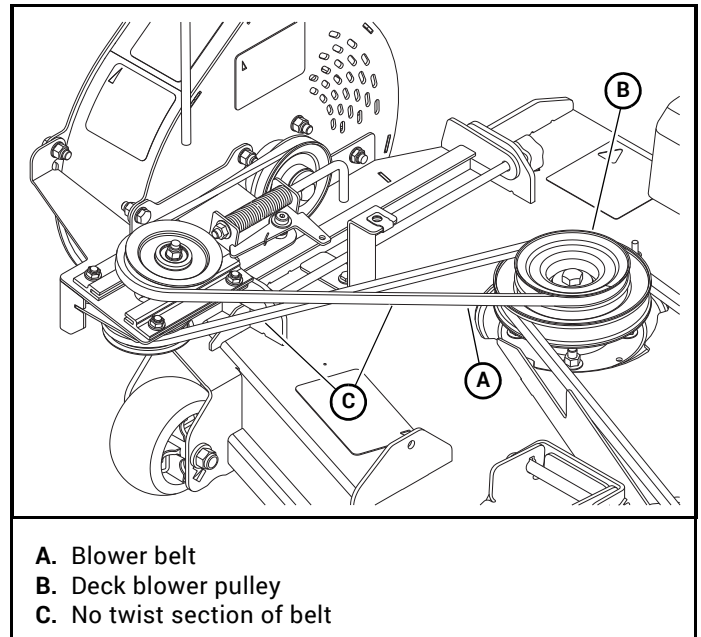

Figure 3-13
19. Install and route the blower belt around the deck blower pulley as shown. Use belt part number 608217 for 48" decks, 608218 for 54" decks, and 607963 for 60" decks. **NOTE:** Make sure the two longest sections of belt are not twisted. Figure 3-13